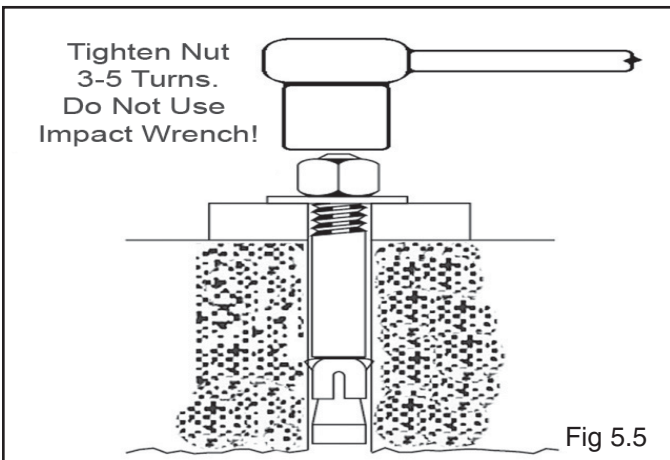

Fig 5.5
7. With the foot guards, shims and anchor bolts in place, tighten by securing the nut to the base then turning 3-5 full turns clockwise (90 ft-lbs.). **DO NOT** use an impact wrench for this procedure. (See Fig. 5.5)